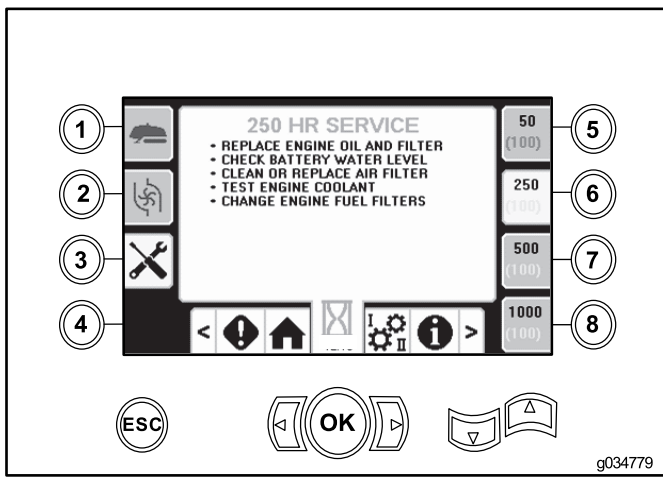

Figure 7
- Button 6—250-hour maintenance schedule (Figure 7)